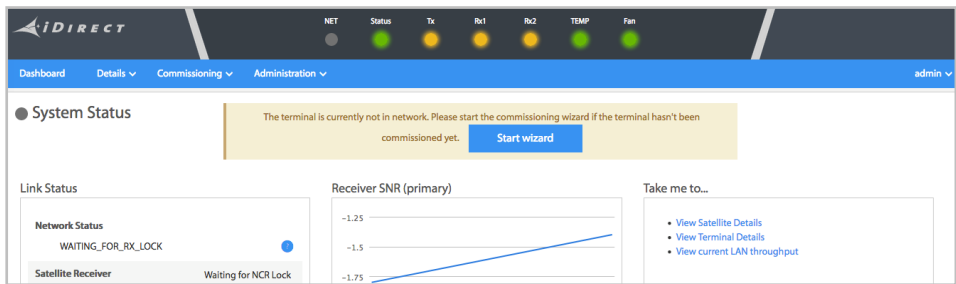

Figure 2 — iDirect Commissioning Wizard Start Button
8. Click the **Start Wizard Button** at the top of the page, as shown in **Figure 2**.